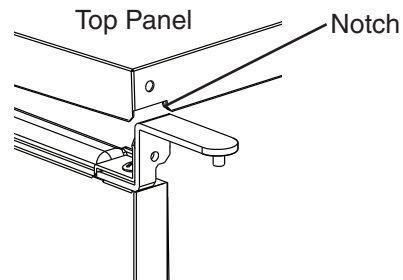

Fig. 14
e) Rotate the top panel 180° from its previous position. This brings the notch that was previously in the right rear to the left front. See Fig. 14. Hook the rear part of the panel on the body, then secure the front with the 2 screws removed in step 6a.